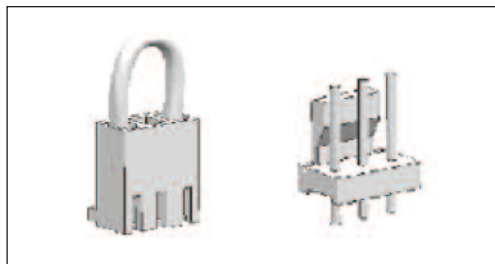

Figure 3.16: Jumpers
- Disconnect the RFI-filters from ground by lifting the jumpers up from their default positions. See Figure 3.16